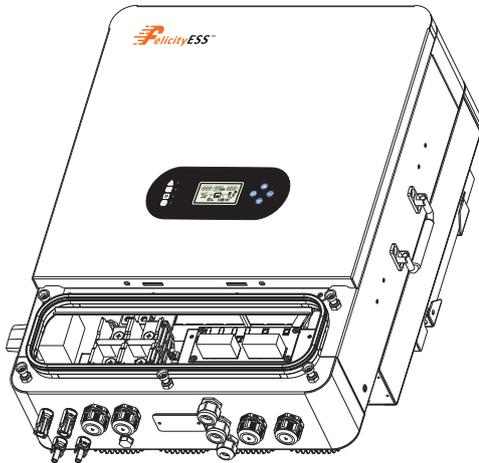

Figure 4.6-1 DRMS interface
**Step 1:** Screw this cover off from the inverter.See Figure 4.6-1.